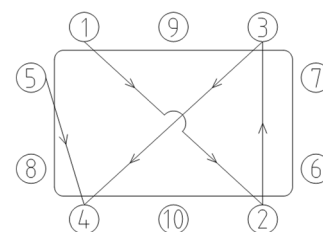

Fig 3.
- Clean the outside rim of the sink and the worktop underside to remove any dirt or grease, allow to dry. Apply a continuous generous bead of good quality silicone onto the rim around the upper perimeter of the sink as shown in fig 3.
10. Progressively tighten the inset clip bolts in a staggered clockwise order similar to fig. 3 to ensure the sink does not skew or rotate whilst it is fixed.